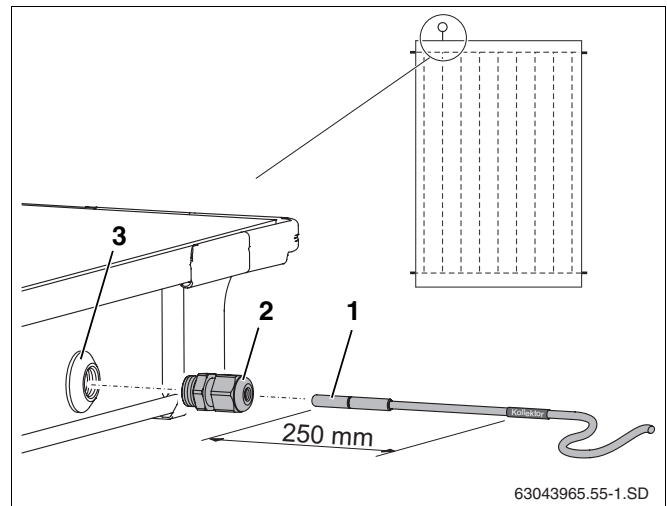

Fig. 33 Pushing the collector sensor into the collector
For perfect functioning of the solar heating system, the collector sensor (Fig. 33, **Item 1**) needs to be inserted into the sensor guide tube as far as it will go (approx. 250 mm).
- ▶ Using the collector sensor or screwdriver, push through the sealing membrane on the sensor bush (Fig. 33, **Item 3**).
- ▶ Screw clamped joint (Fig. 33, **Item 2**) into sensor bush.
- ▶ Tighten clamped joint (Fig. 33, **Item 2**), counterhold if necessary.
If you accidentally push through the sensor bush (Fig. 33, **Item 3**) on the wrong collector, it can be resealed using the plug from the connection kit. You must first remove the nut in the sensor bush using the cable gland (Fig. 33, **Item 2**).